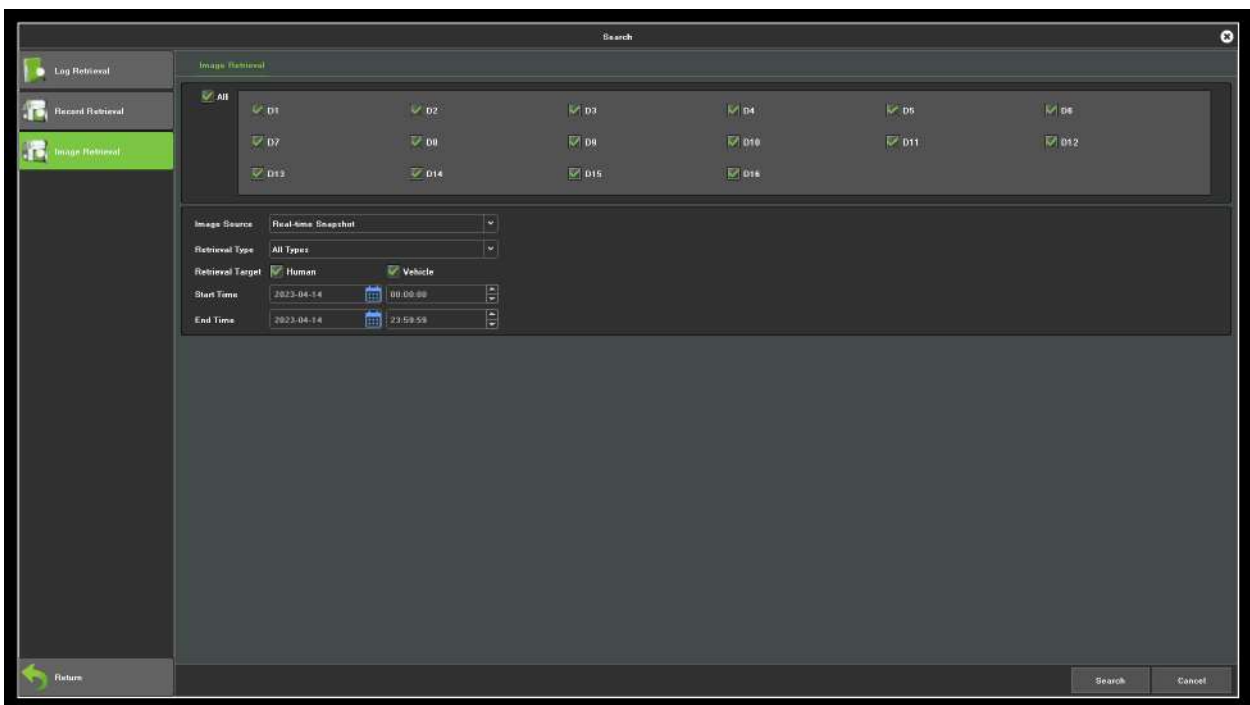

Figure 6.2 Picture Backup Interface
6. Click **Start Backup** button to start the backup, show as Figure 6.2.